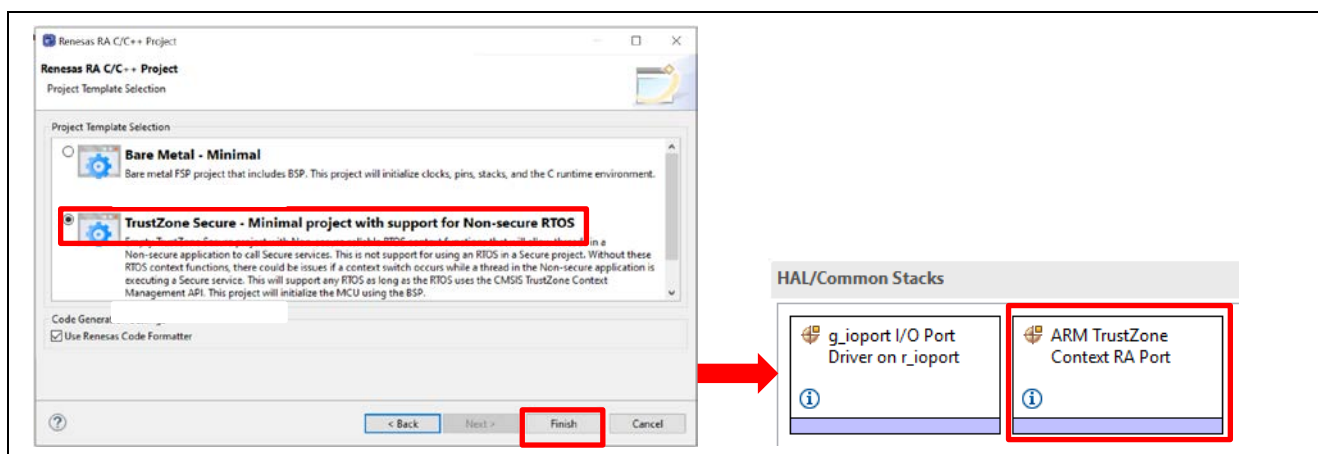

Figure 24. Adding the TrustZone Context RA Port
- Secure projects will add the required RTOS context in the Secure region for the Thread that needs to access the NSC APIs in an RTOS enabled project. When this project type is selected, the Arm TrustZone Context RA Port will be added as shown in Figure 24.